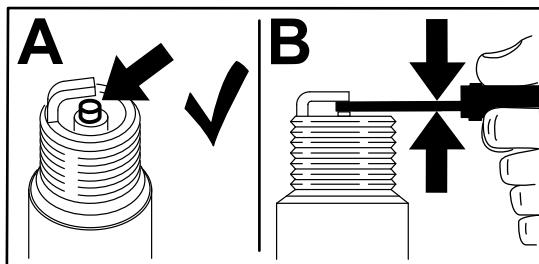

Figure 50
4. Locate and remove the spark plug(s) as shown in Figure 50.